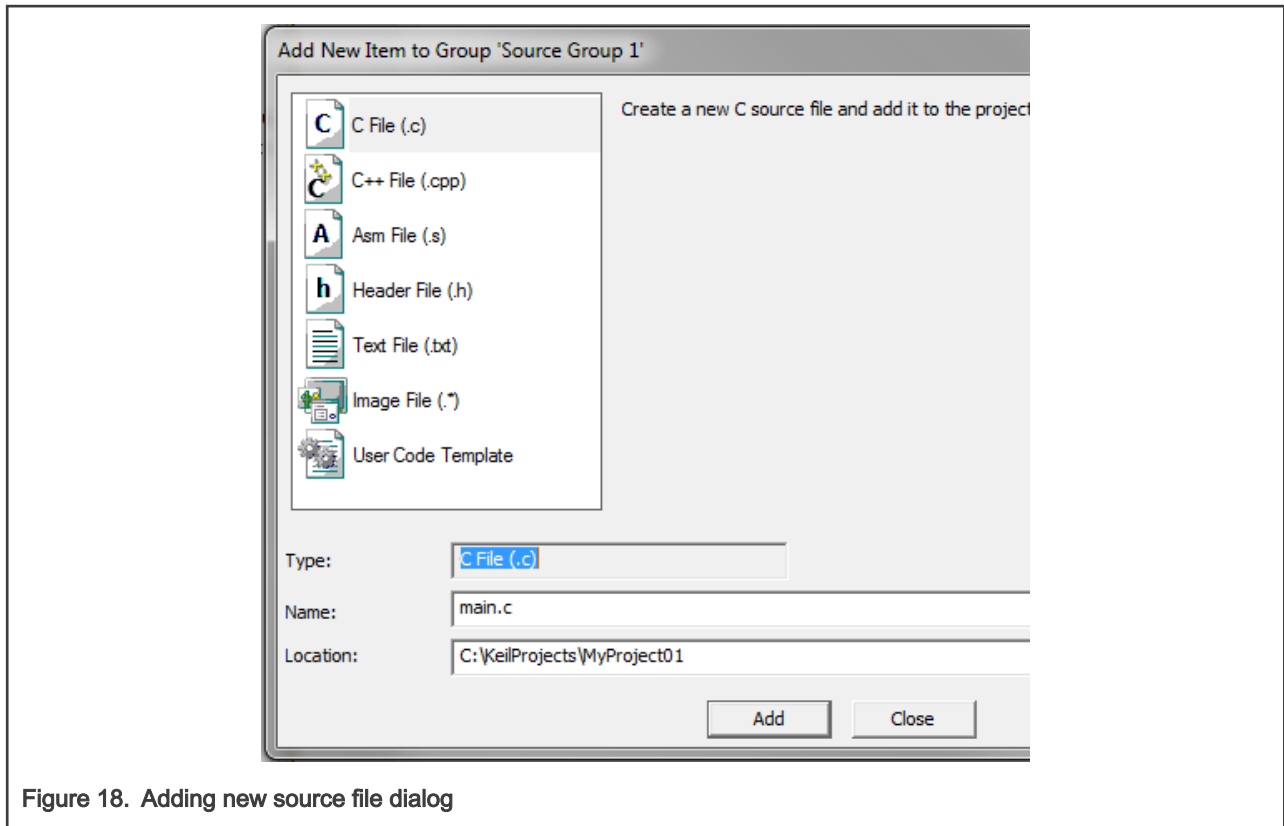

Figure 18. Adding new source file dialog
2. Select the C File (.c) option, and type a name of the file into the Name box, for example '*main.c*'. See Figure 18.